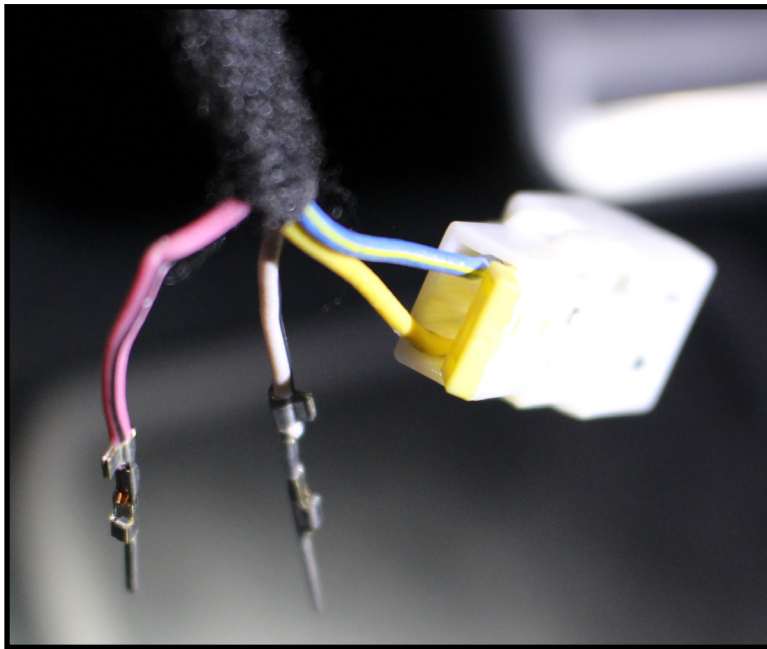
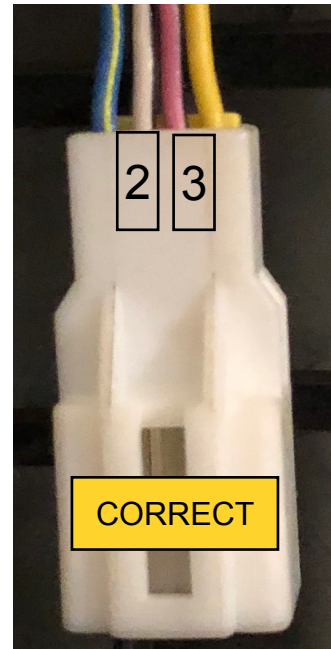

fig. 6a
fig. 6b
4. The expose wires can be repositioned now (fig. 6a). The pink/black stripe wire belongs in position 3, the white/black stripe wire is to be inserted to position 2. This is correct in (fig. 6b). For connector pin out see table (fig. 6c)